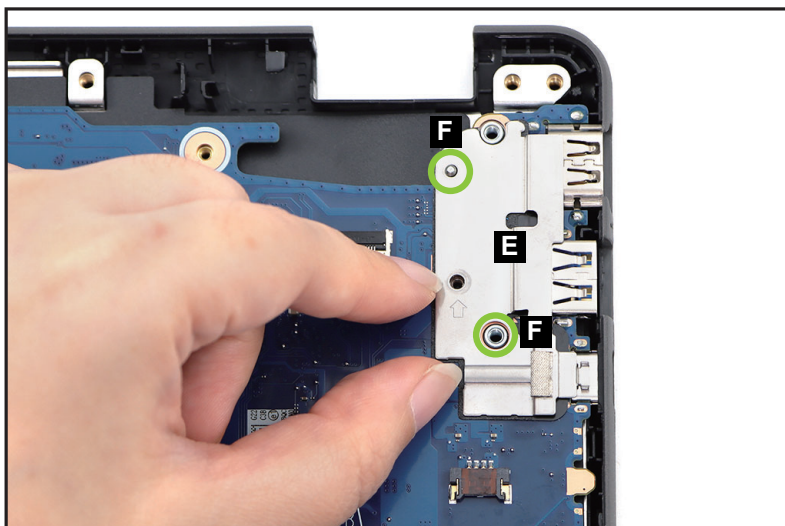

Figure 3-25. Mainboard Removal
6. Release the I/O bracket (E) from the guide pins (F) on the top assembly (Figure 3-25). Then remove the I/O bracket.